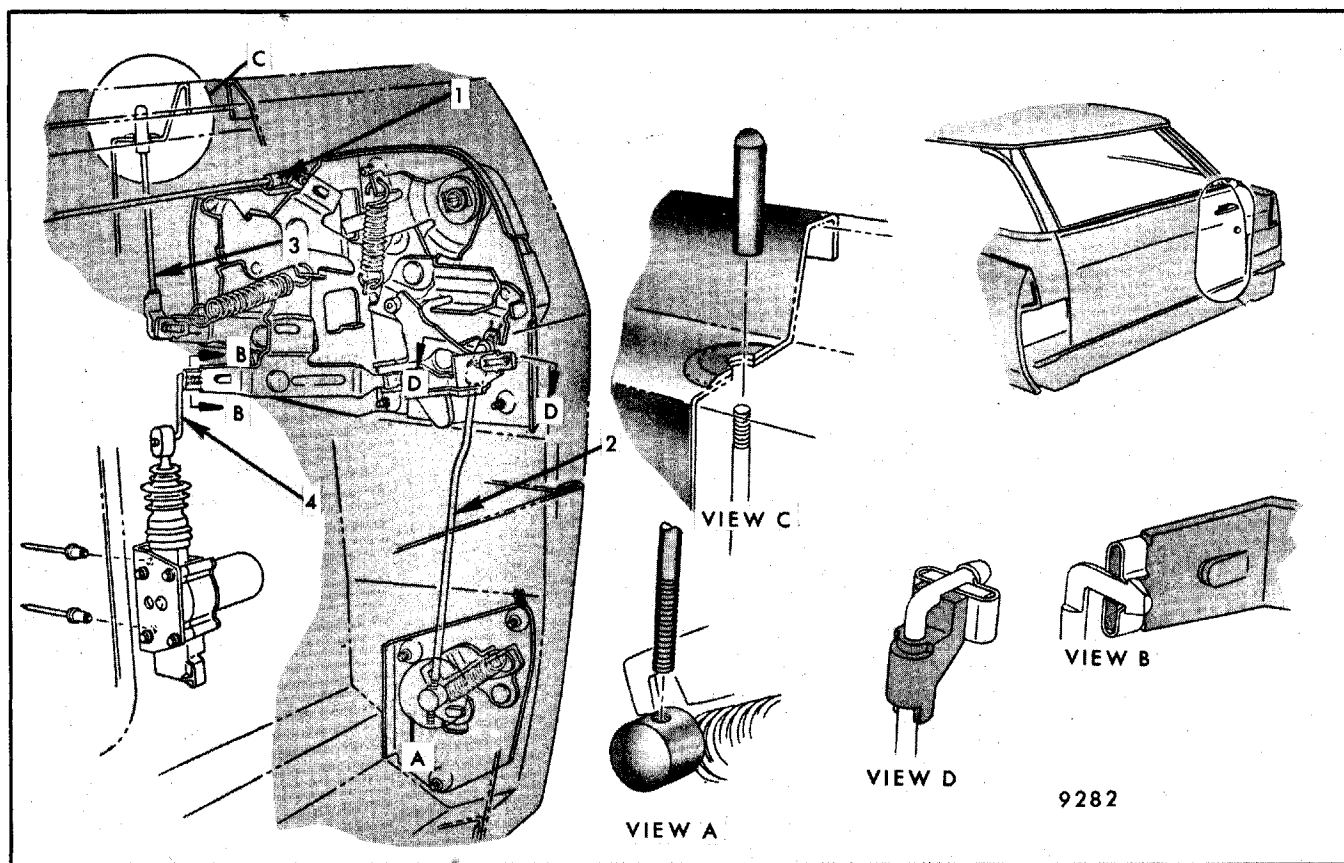

Fig. 7-146 - Tailgate Locking Rods
2. Disengage right upper to lower synchronization locking rod swivel from lock clip, Figure 7-146, "2". Disconnect electrical connector for tailgate ajar switch.